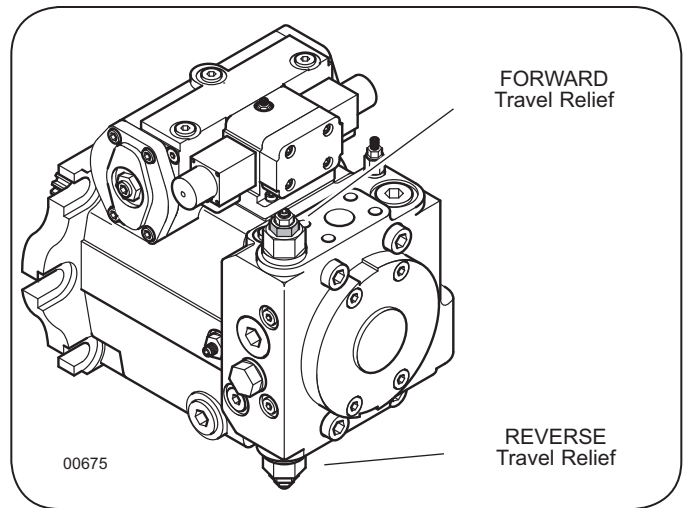

Figure 6: Drive POR Relief
10. Locate the directional relief for the direction of travel that requires adjustment. See Figure 6.